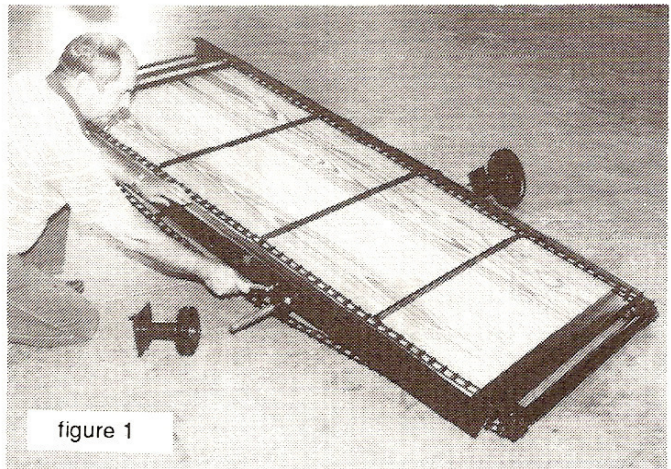

figure 1
2. Mount axle assembly (figure 1) using the second set of holes from the rear of unit. Insert 3/8 x 1-1/4 bolts, nuts, washers, and lock washers, then tighten. Mount belt stabilizer bracket using (drivers side) rear axle bolt.
3. Install hub onto axle (figures 1, 2) pulley end first. Secure with a 1 inch washer and a 1/4 x 1-1/2 inch cotter pin. The 6 inch pulley hub assembly goes on driver side (left side) and 10 inch pulley assembly goes on passenger side (right).